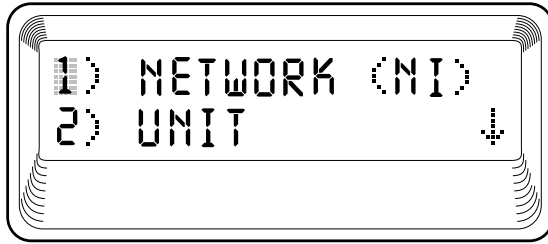

Figure 4-4
Since no other items need to be changed, press **Cancel** to exit the Network (NI) menu. The display returns to the first two Network (NI) menu items (see Figure 4-4).